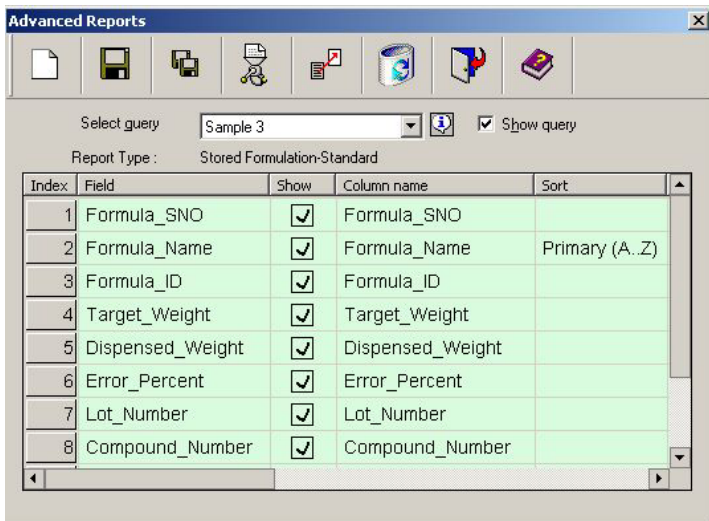

Figure 2
- **In Lot_Number of Formula row, select '<>' operator in operator column and do not enter value in constraint1 column. Refer Fig 2 and Fig 3.**